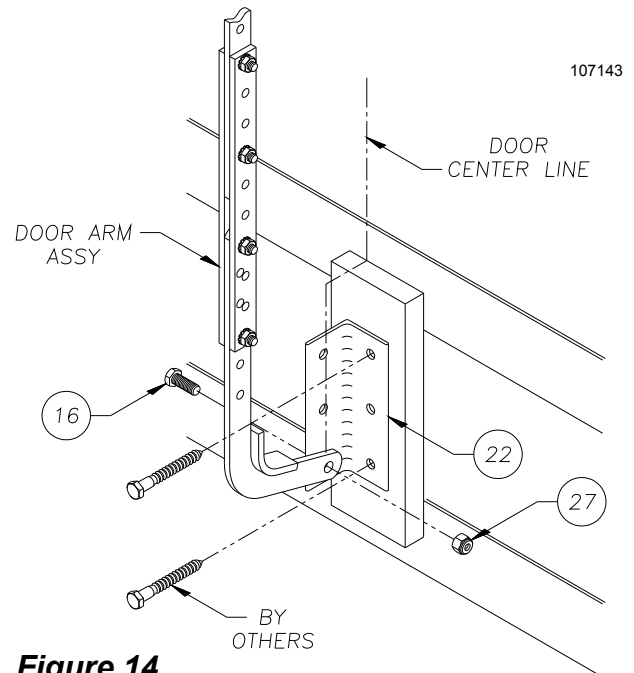

Figure 14
10) Refer to Figure 14. Attach the door bracket (Item 22) to the curved arm using a 3/8 bolt and locknut (Items 16 & 27). Tighten the bolt until snug then back off 1/4 to 1/2 turns so as to allow the arm to pivot on the bolt freely. Position the door bracket to the scribed center line on the door. Use suitable hardware to attach the door bracket to the door.